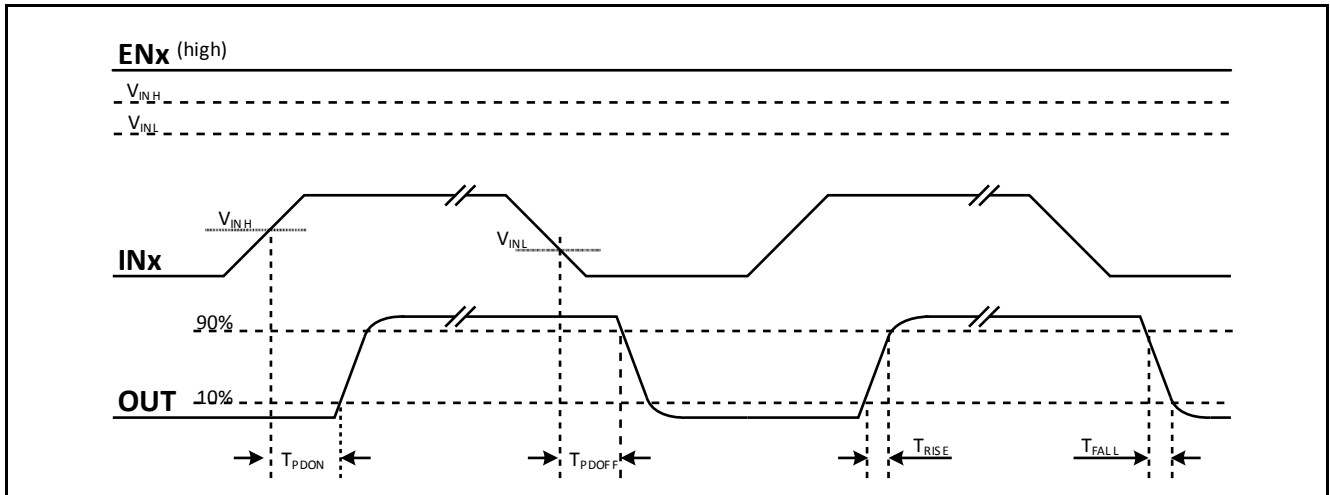
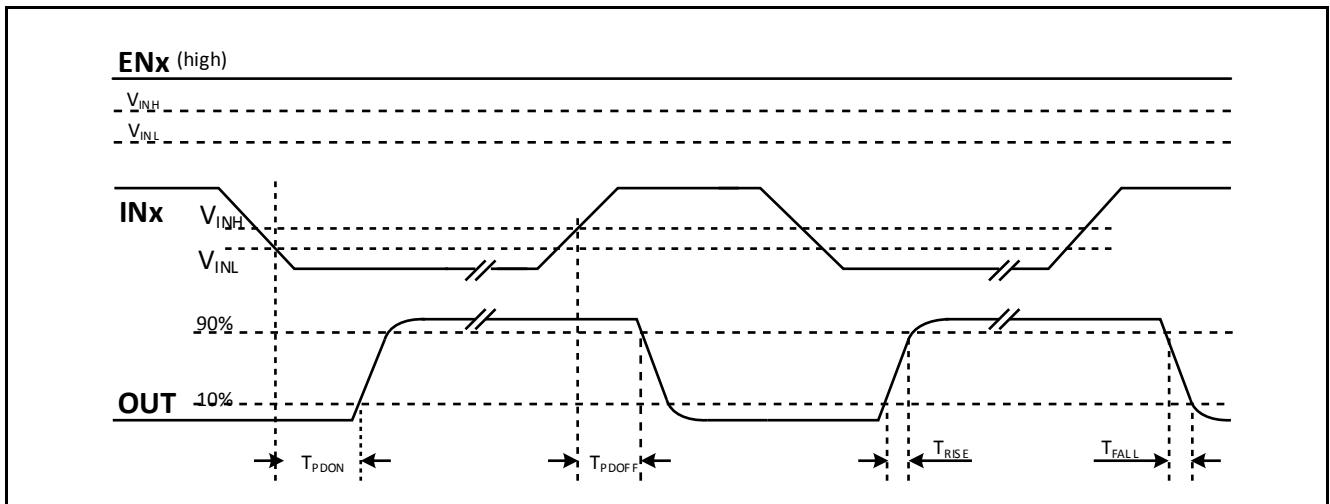
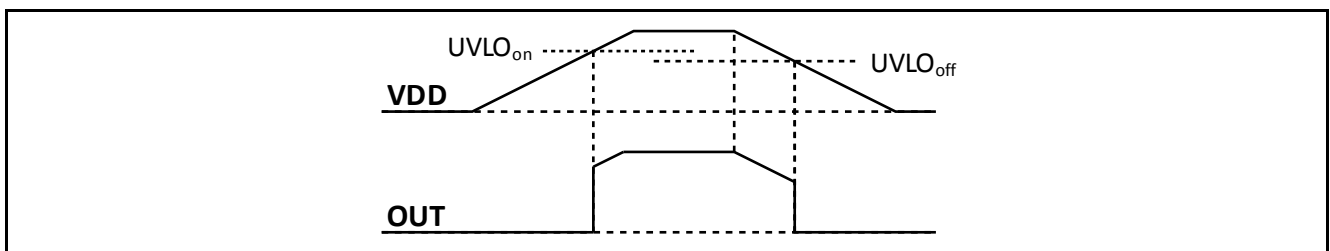
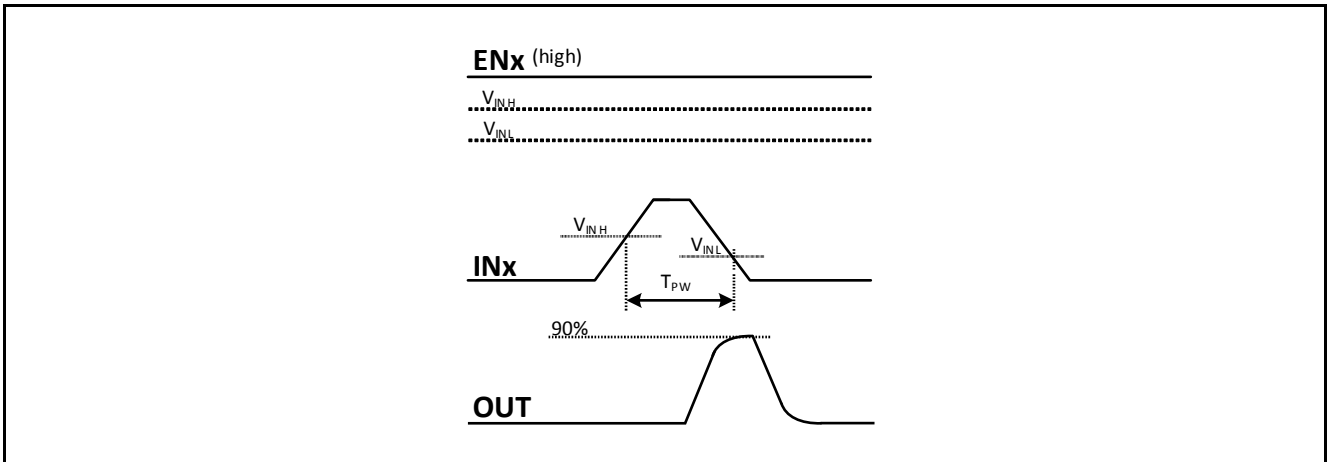

Figure 6-1 Propagation Delay, Rise and Fall Time, Non-inverted
Figure 6-2 Propagation Delay, Rise and Fall Time, Inverted
Figure 6-3 UVLO Behaviour, Input ENx and INx drives OUT normally high
Figure 6-4 TPW, minimum input pulse width that changes output state
**Table 5-8 Static Output Characteristics (see Figure 6-2)**
**Table 5-9 Dynamic Characteristics (see Figure 6-1, Figure 6-2, Figure 6-3 and Figure 6-4)**
Table 5-9 Dynamic Characteristics (see Figure 6-1, Figure 6-2, Figure 6-3 and Figure 6-4)
Figure 6-1 shows the definition of rise, fall and delay times for the inputs of the non-inverting version (with Enable pin high or open).
Figure 6-2 shows the definition of rise, fall and delay times for the inputs of the inverting version (with enable pins high or open).
Figure 6-3 illustrates the undervoltage lockout function.
Figure 6-4 illustrates the minimum input pulse width that changes output state.